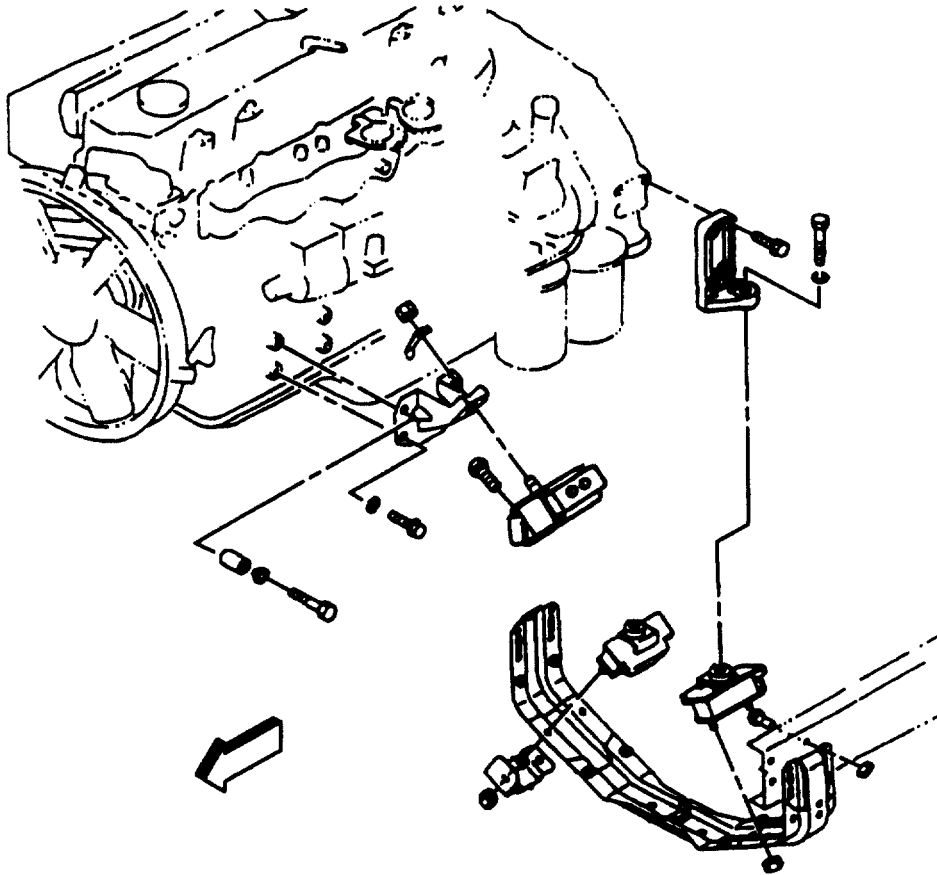

Figure 36 – Engine Mounts
4. Ring gear to the flywheel, as soon as it is heated (Figure 36).
Remove or Disconnect (Figure 36)